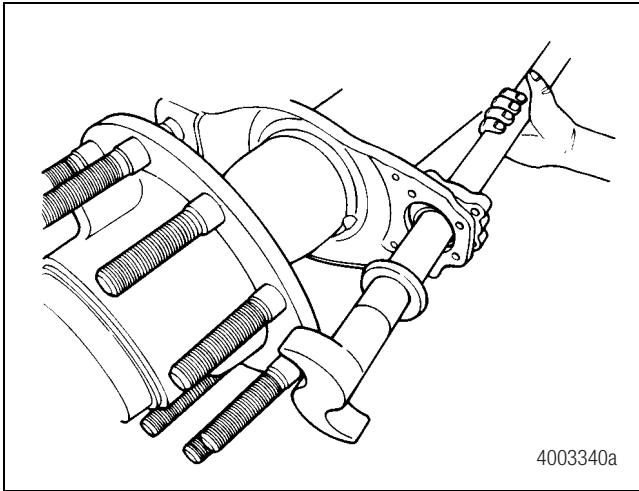

Figure 12.40
4. Move the camshaft head away from the centerline of the axle so it clears the hub flange, then pull the camshaft from the bushings. Figure 12.40.